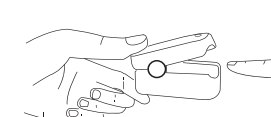

Figure 5
- 1.After properly installing two AAA batteries, press lid's press sign as shown in the **Figure 5** and open the clip. Let the testee's finger put into the rubber cushions of the clip, make sure the finger is in the right position as shown in **Figure 5**, and then loosen the clip.